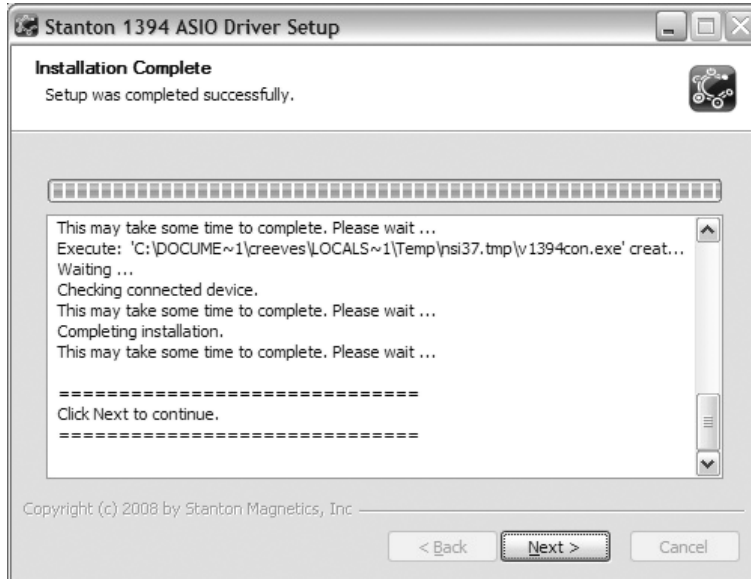

Figure 4.9
9. Once the files are done copying click **Next** to continue. (Figure 4.9)